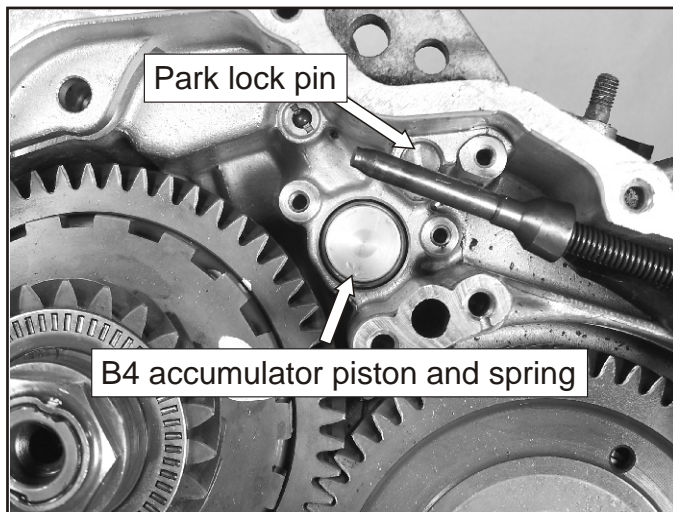

Figure 265
- 192. Lubricate and install the B4 accumulator piston and spring (spring first). Install the park lock pin into the case. See Figure 265.